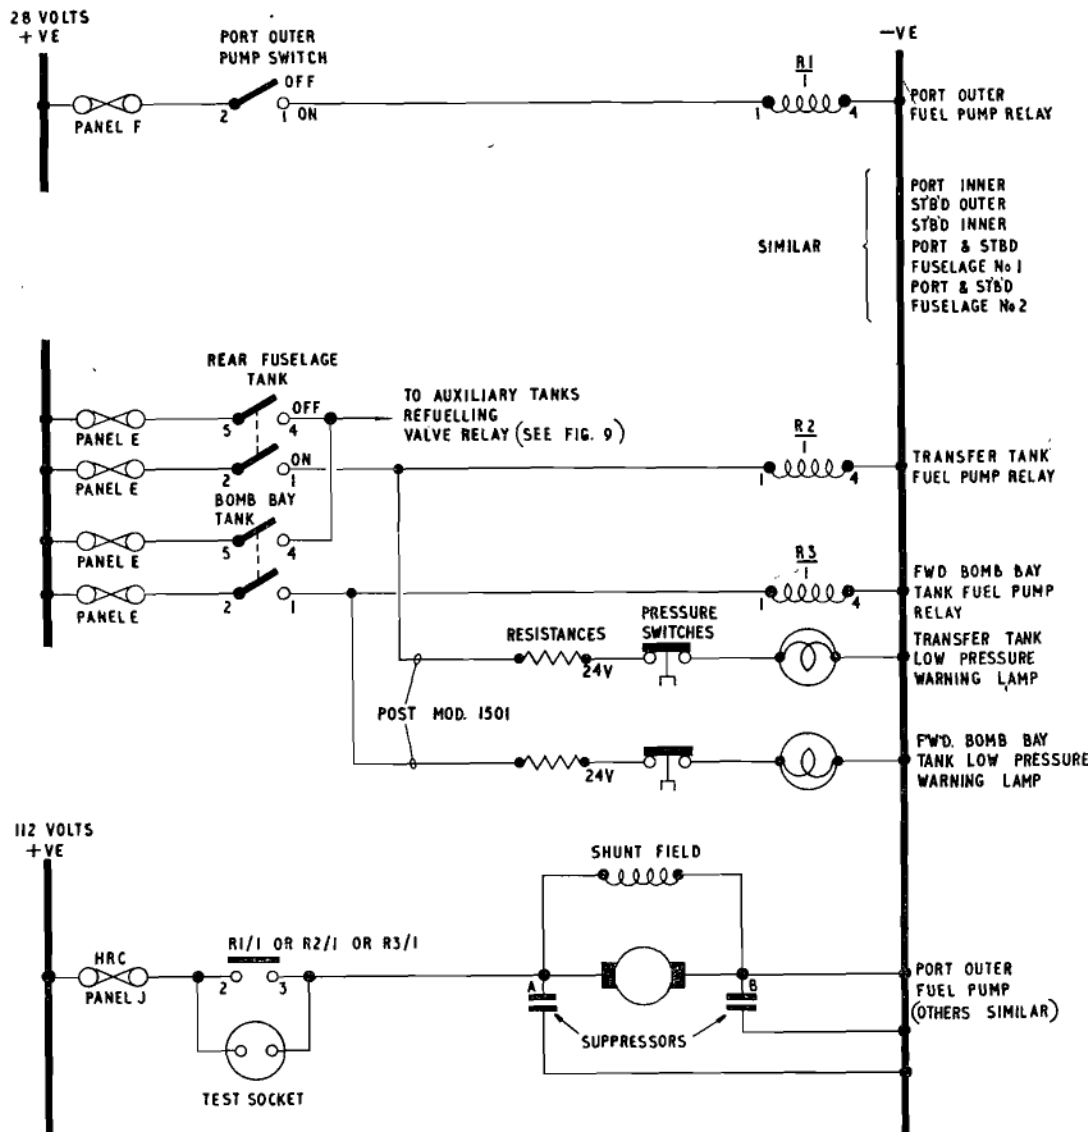
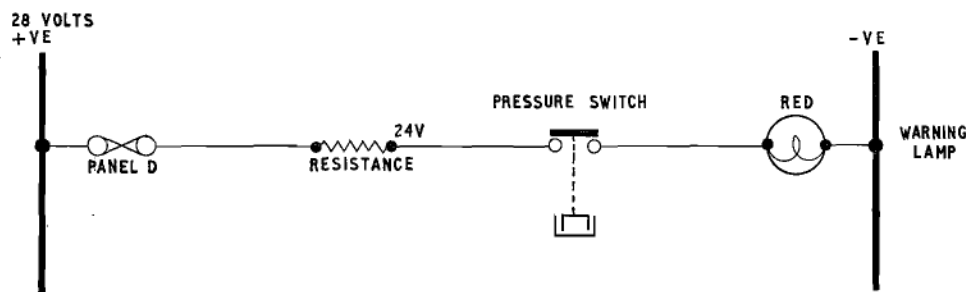

Fig 1. Fuel pumps control (pre-Mods. 2443 and 2444)
Fig. 4. Typical low fuel pressure warning
Main tanks (fig. 1 and 2)
(fig. 1)
Fuel pressure warning system (fig. 4)
11. The lamps for the bomb bay and transfer tanks indicate when the respective tanks are empty. Pre-Mod. 1501, the warning lamps are fused individually (fig. 4) and stay on when the tanks are empty. Post Mod. 1501, the lamps are supplied via their respective tank control switches (fig. 1) so
Underwing tank (pre-Mod. 2732) (fig. 4)